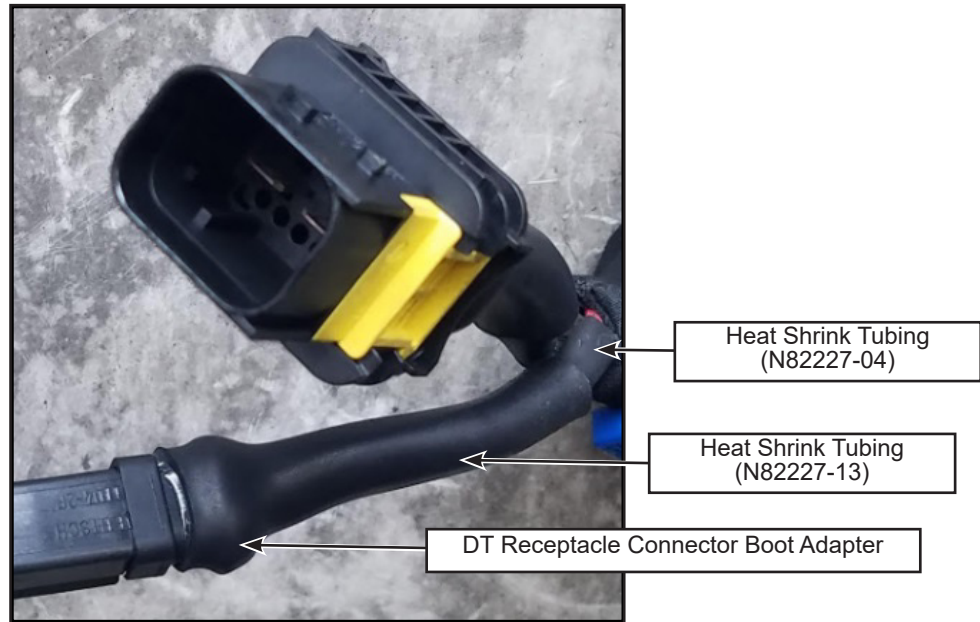

Figure 18 - Heat Shrink Tubing Installation on DT Receptacle Connector Wiring at Harness Side
- 1.32. Using a heat gun, apply the large heat shrink tubing PN N82227-04 starting from the boot adapter of DT receptacle connector finishing directly over the smaller heat shrink tube previously installed on the paired control wires (see figure 18). Make sure to fill any gap with the inner adhesive liner glue (do not apply heat shrink tubing over tape or loom).